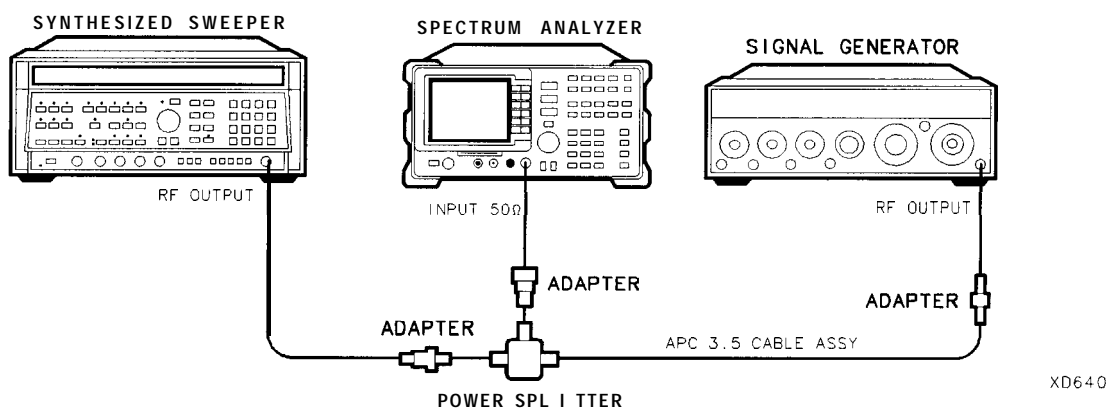
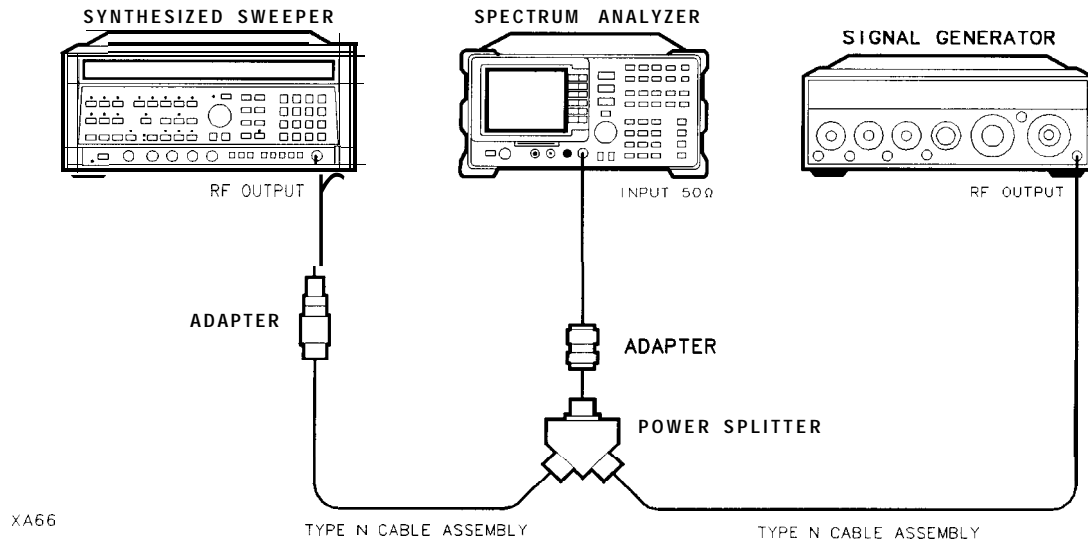

Figure 2-11. 1800 MHz Frequency Span Readout Accuracy Test Setup
Figure 2-12. For **HP** 85943 and **HP** 8594Q Only - Frequency Span Readout **Test** Setup
1. Connect the equipment as shown in Figure 2-11, Figure 2-12 for HP 85943 and HP 8594Q. Note that the power splitter is used as a combiner.